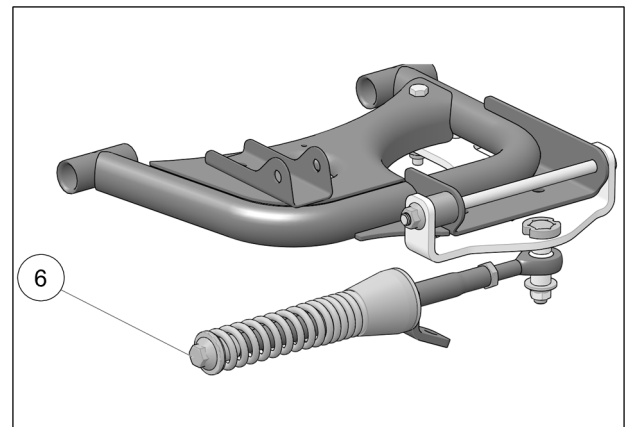

Fig. 12
11. Verify that spring assembly bolt (6) is tightened to the recommended torque specification: 75 N•m [55 lb•ft]. Refer to Fig. 12